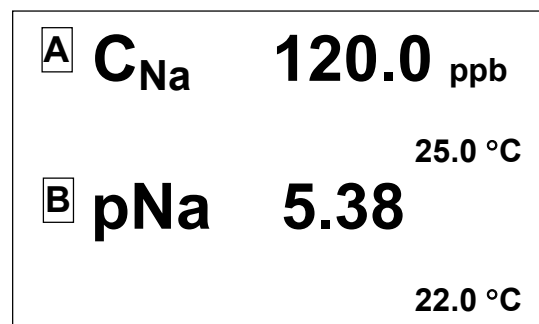

Fig. 1.10
- double channel (A and B) measurement display as shown in Fig 1.10.